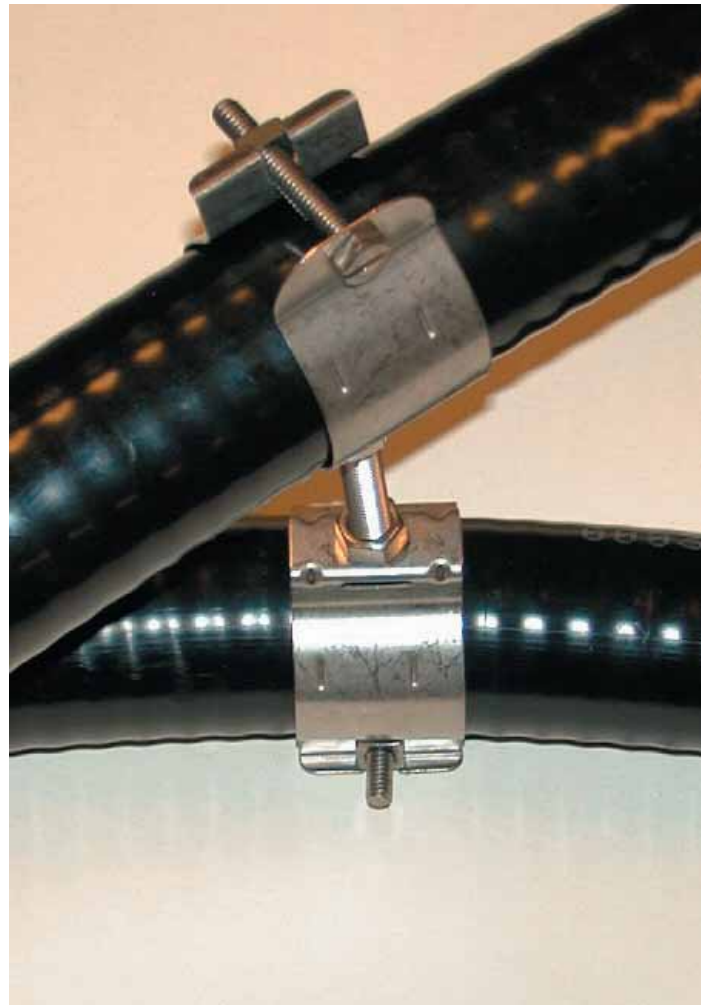

Figure 1. Recommended Cable-to-Cable Securing Arrangement
- **Cable to Cable:** Use two cable clamps and a full-threaded bolt or threaded rod with nuts, as shown in figure 1 of this sheet, to secure the cables together.